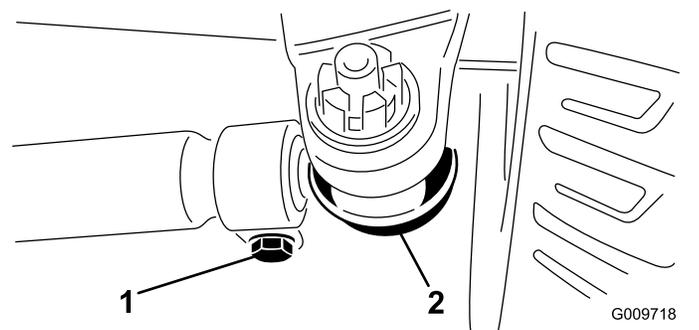

Figure 48
3. Loosen the clamps at both ends of the tie rods (Figure 48).
4. Rotate the detached ball joint inward or outward one (1) complete revolution. Tighten clamp at loose end of tie rod.
5. Rotate the entire tie rod assembly the same direction (inward or outward) one (1) complete revolution. Tighten clamp at connected end of tie rod.
2. To adjust, remove the cotter pin and nut from either tie rod ball joint (Figure 48). Remove tie rod ball joint from axle case support.